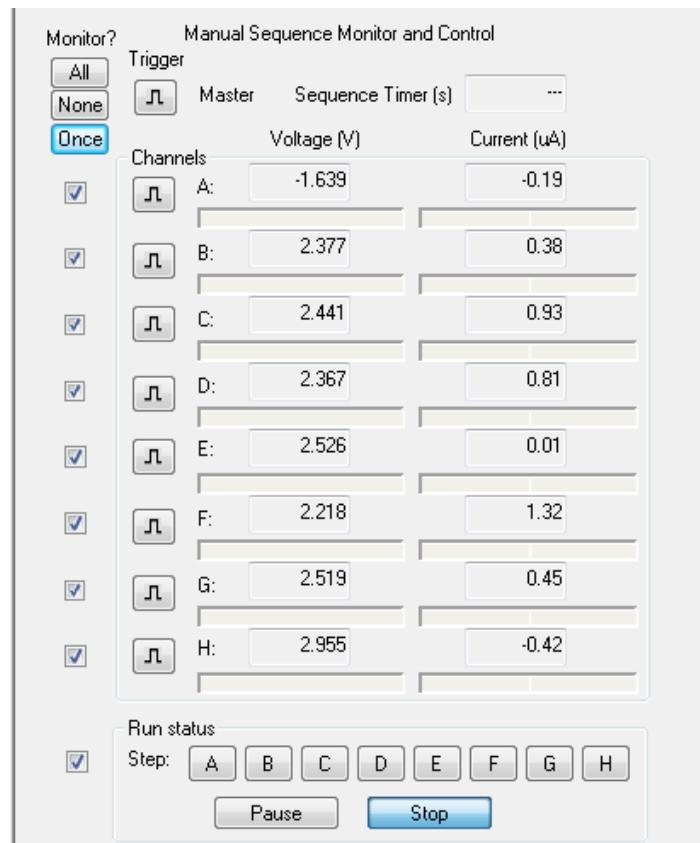

Figure 8. Manual Sequence Monitor and Control window.
4. Press **A** at the bottom of the Sequencer Control Panel to run Step A, etc. If you selected timed events or triggers, then the automated sequence you created will take over. If not, and you selected “manual” to switch between steps in the **Sequence Wizard**, click the  **Sequencer** icon in the left pane. The **Manual Sequence Monitor and Control** (Figure 8) will open in the right pane.